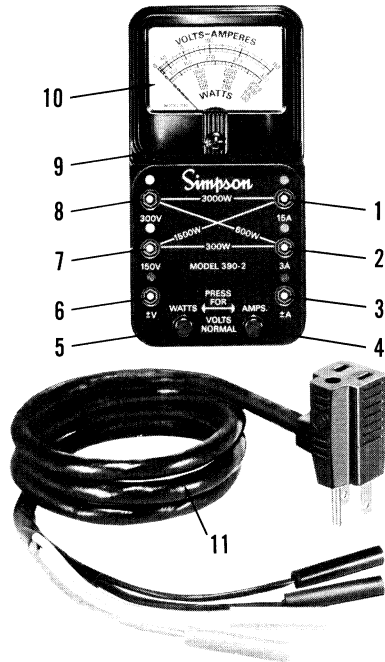

Figure 3-1. Controls, Connectors and Indicator
All operating controls, connectors and indicator are shown in Figure 3-1. Become thoroughly familiar with each before operating the Instrument for the first time.
Description of the controls, connectors and indicator are listed in Table 3-1. The item call-outs in Figure 3-1 correspond with the numerical order of the items listed in Table 3-1.
- a. Before you use your Instrument, be sure that the pointer is on zero when there is no power applied. A zero adjust screw is located directly below the meter scale (refer to Figure 3-1).